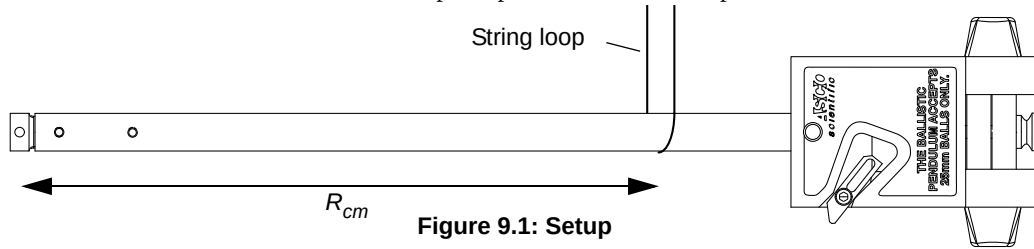

Figure 9.1: Setup
5. Tie a loop in a piece of string, and hang the pendulum horizontally from the loop. (See Figure 9.1.) With the ball latched in position in the ball catcher, adjust the position of the pendulum in the loop until the pendulum balances. Measure the distance from the pivot point to this balance point, and record the distance as R_{cm} .